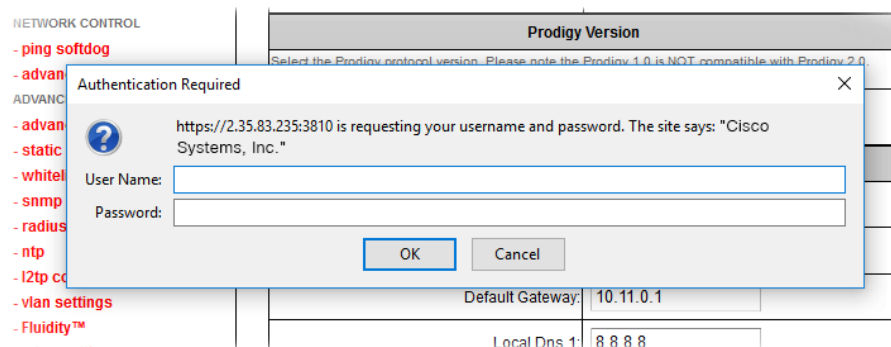

Figure 64. Web browser (Authentication Required dialog)
- The web browser will show the **Authentication Required** dialog (Figure 64 (page 139)). If needed, use the dialog to log in again.